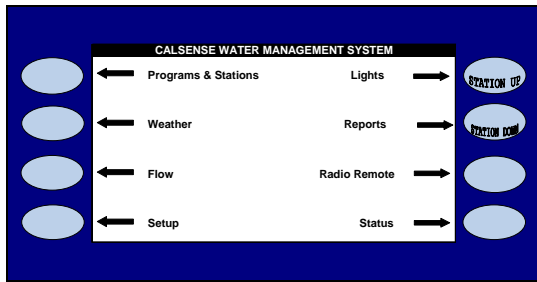

Figure 1
2. Press the **WEATHER** menu key (Figure 1).
24.  Press the **MAIN MENU** key to return to the MAIN MENU screen (Figure 1).